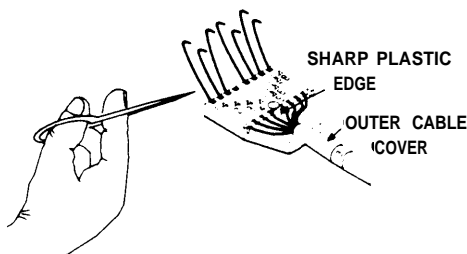

Figure 4
6. While holding the outer cable cover close to the sharp plastic edge, bend all eight wires up again (at the end of each notch) and cut them off close to the edge (see Figure 4).